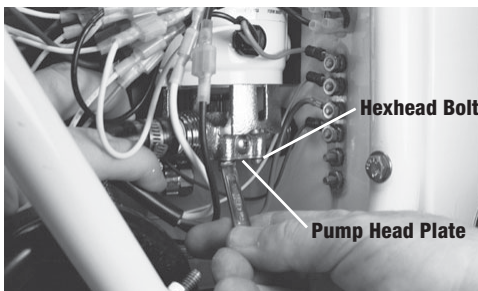

Figure 6
3. Use 1/4" wrench and remove the four hexhead bolts from the pump head plate (fig. 6).